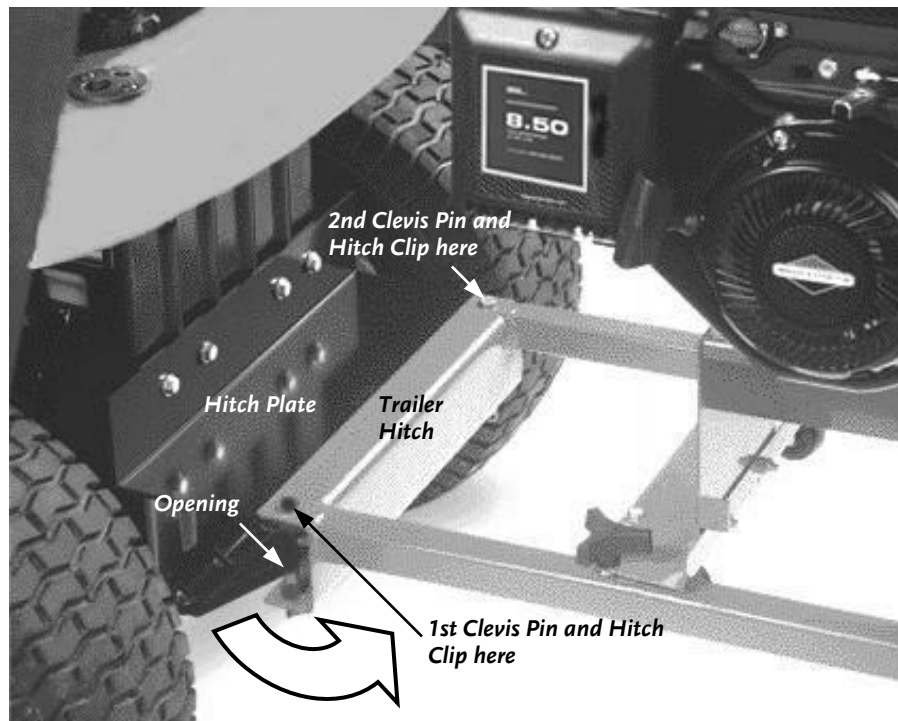

Figure 13
1. Position your Lawn Tractor on level ground at a slight angle to the Two-Point Trailer Hitch on the DR LEAF and LAWN VACUUM (**Figure 13**) and set the Parking Brake.
2. Lift the Trailer Hitch and position one end of the Hitch so that the Hitch Plate is in the opening of the Trailer Hitch (**Figure 13**).
3. Align the closest hole in the Hitch Plate with the corresponding holes in the Trailer Hitch and insert a Clevis Pin w/Rubber Washer and Hitch Clip (**Figure 13**).
4. Pivot the Trailer around so that the Trailer Hitch moves in toward the Hitch Plate; aligning the remaining holes in the Hitch with the outermost hole on the other end of the Hitch Plate (**Figure 13**).